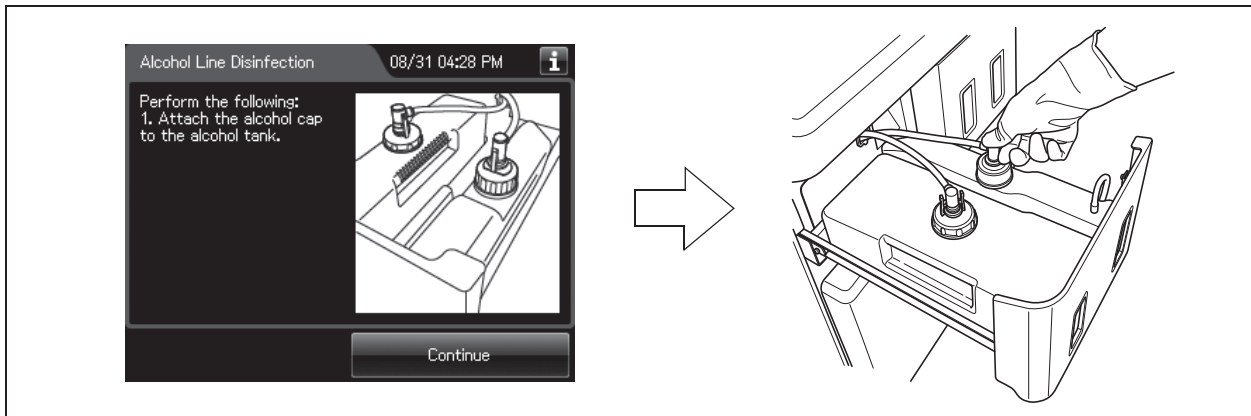

Figure 7.120
- 31** When the touch screen display changes as shown Figure 7.120, attach the nozzle of alcohol cap to the alcohol tank.